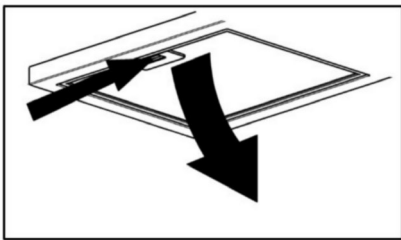
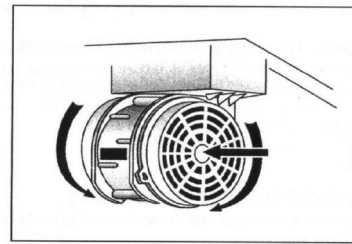

Fig. 6
Fig. 7
In the filtering version you must install the two carbon filters on the sides of the aspirator. To install the carbon filters you must first remove the metal grease filters (**Fig. 6**) and then install carbon filters by turning them counterclockwise (**Fig. 7**).
**The charcoal filters are designed to collect unpleasant odours in the cooking fumes. The air is then released purified in the environment. The charcoal filters must not be washed, but replaced 2 or 3 times a year, depending on how much the hood is used. New filters are to be requested directly to the manufacturer. In order to replace the charcoal filters, you should remove the anti-grease filters. You have then to take off the charcoal filters placed at the two sides of the aspirator. Turn the filters until they unfasten from aspirator (Fig.7). Invert the operation in order to install the new charcoal filters.**